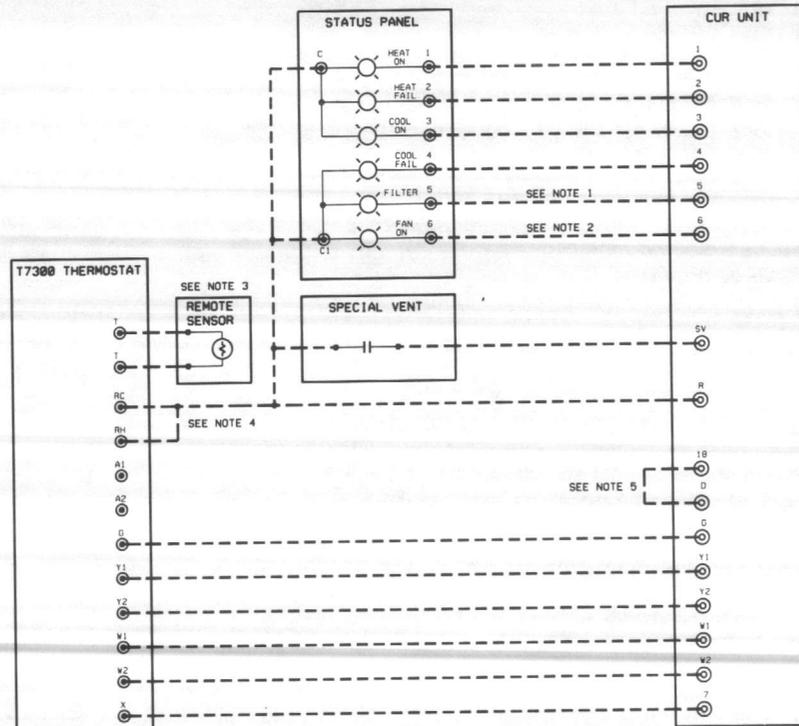

Figure 20. Field Wiring With Honeywell T874D Thermostat and Q674E Subbase with Switching (or Equivalent).
1. If a programmable type thermostat is not used, start/stop operation may be controlled with a field installed timeclock either purchased with the unit or field supplied. A night setback thermostat may also be incorporated for reduced space temperature control during unoccupied periods. Refer to Figures 20, 21 and 22.